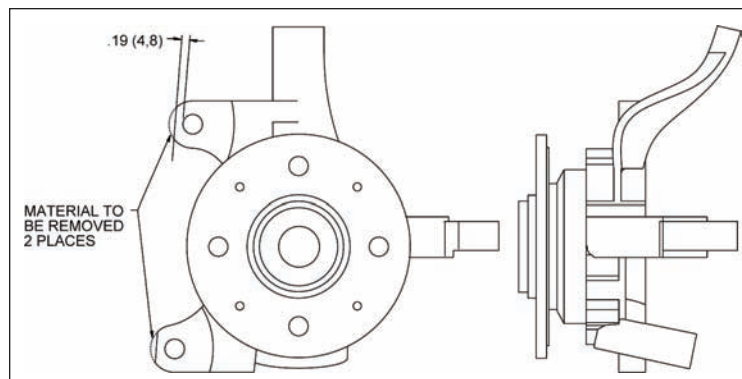

Figure 2. Spindle Modifications
- These modifications should be performed by a qualified machinist. Refer to Figure 2, right. Only one view of the spindle is shown, but the modifications need to be performed on both spindles.